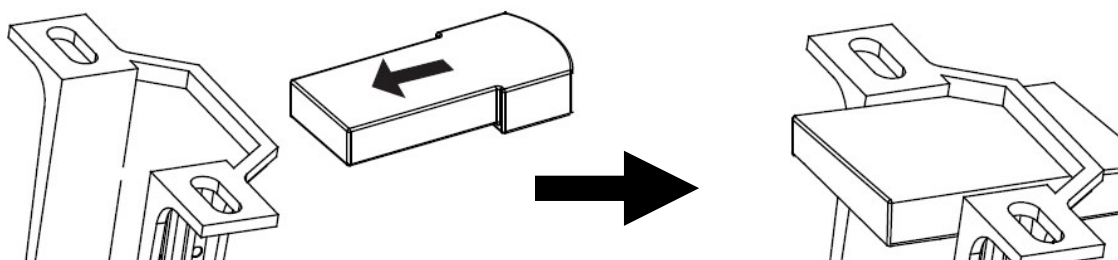

Fig. 9
- Carefully insert the Remote Receiver above the hanger ball in the remainder spacing in the mounting bracket. Take care not to damage or loosen any of the wiring. (label 5 & Fig. 9).